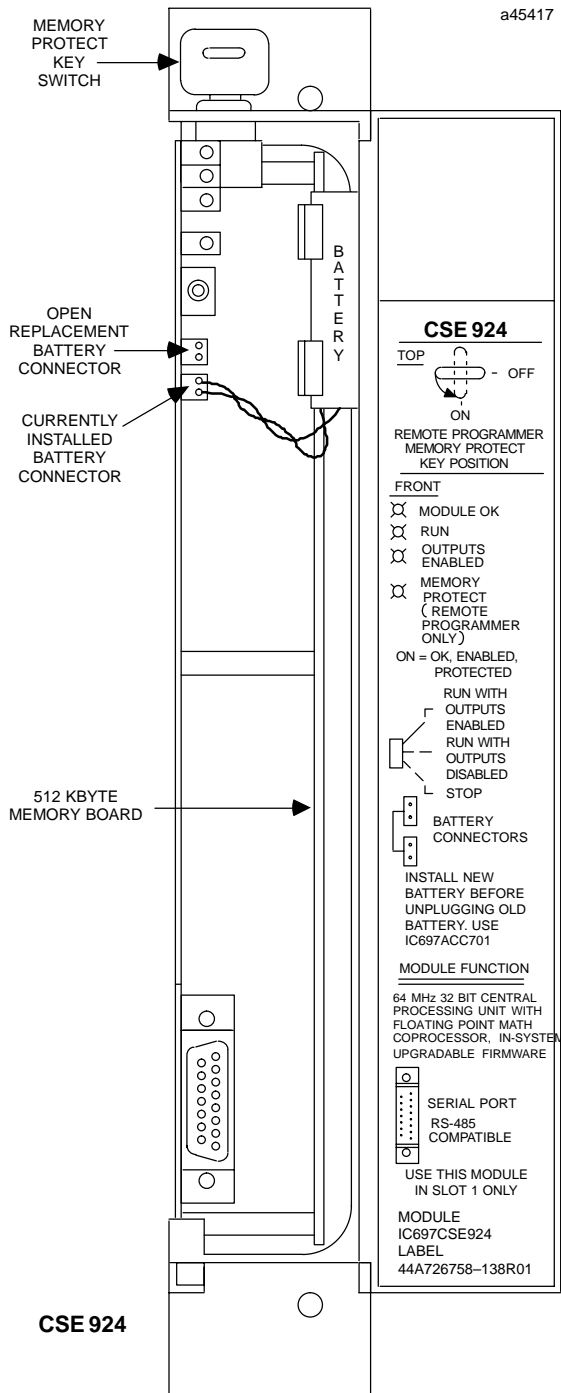

Figure 1. CSE 924 - Location of Major Features
- Connect the battery to either of the battery connectors on the module (see Figure 1).
The 15-pin D-connector provides the connection to an RS-485 compatible serial port on the CPU as shown in Figure 1.